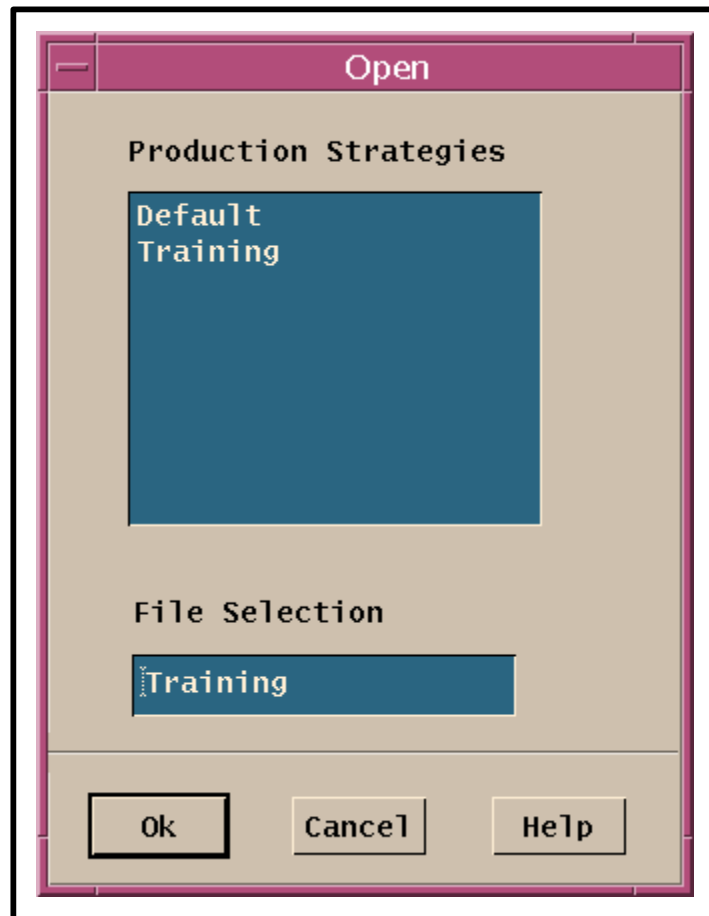

Figure 40. Production Strategies “Open” Window
- Alternatively, it is possible to select **File** → **Open** from the pull-down menu, select the desired production strategy from the list on the **Open** window (Figure 40), and click on the **Ok** button to open the production strategy.